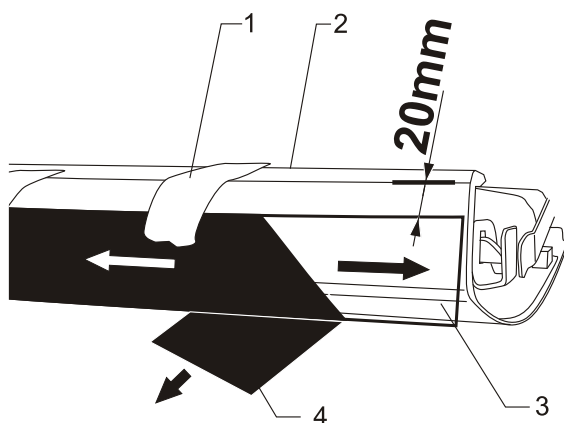

Figure 14
25. Peel back the backing sheet (4) from the end of the anti-abrasive tape and wet out the tape on the flat surface of the top of the tailgate.
27. Once the anti-abrasive tape has been applied across the top surface, wet out the anti-abrasive tape over the radius of the tailgate. Refer to figure 14.